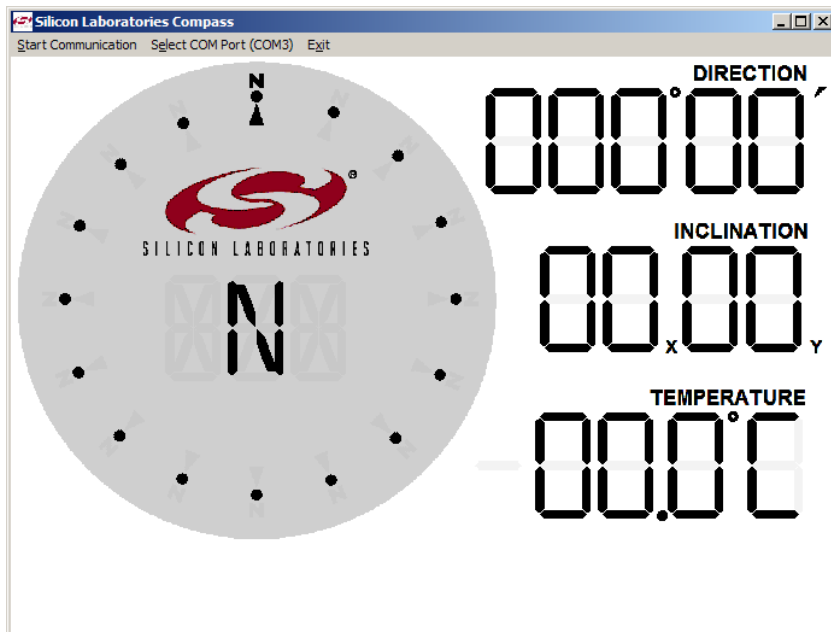

Figure 11. Compass Software Startup
1. Start the compass application by running Compass.exe located by default at "C:\SiLabs\MCU\Demos\C8051F35x". The application is shown in Figure 11.